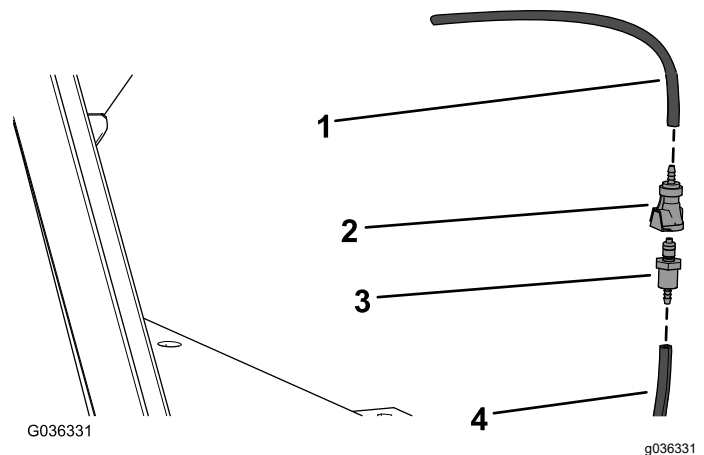

Figure 4
2. Connect the female straight fitting to the cab hose and the male straight fitting to the kit hose (Figure 4).